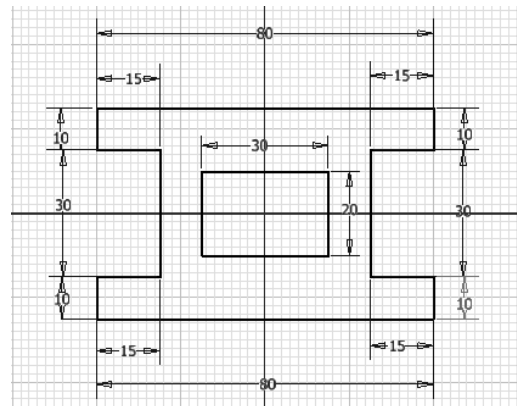

Figure 2-51 Completed sketch for Tutorial 2
- Draw the inner closed loop by using the dynamic input method, refer to Figure 2-51.
19. Choose **Done** from the shortcut menu; the sketch is created, as shown in Figure 2-51.